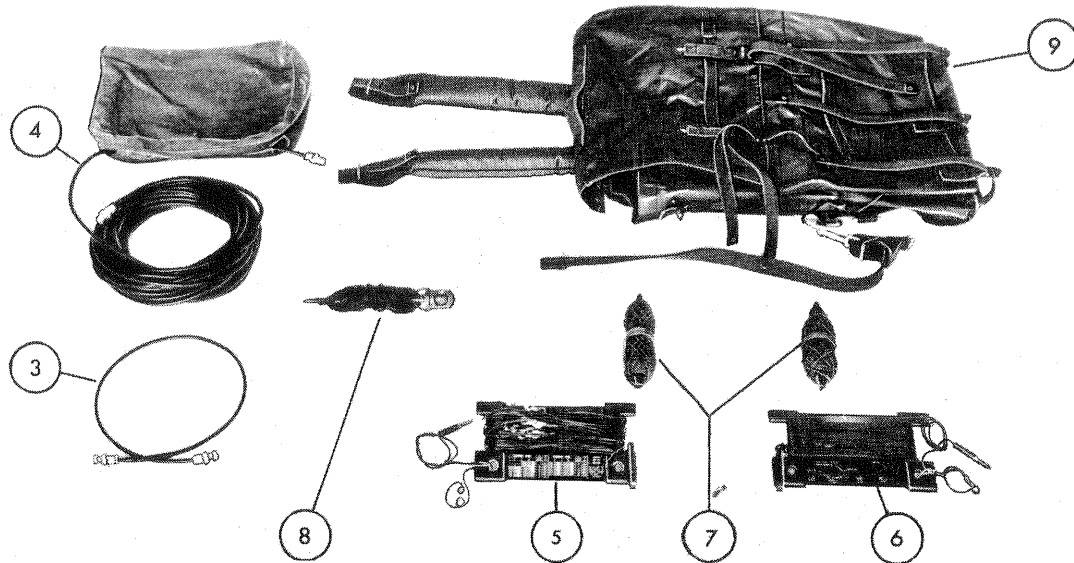

FIG 4 – MINOR COMPONENTS, CONVERSION KIT RADIO SET PRC-F1 TO GRC-F2
16. The minor components, as listed in Table 2, are shown in Fig 4